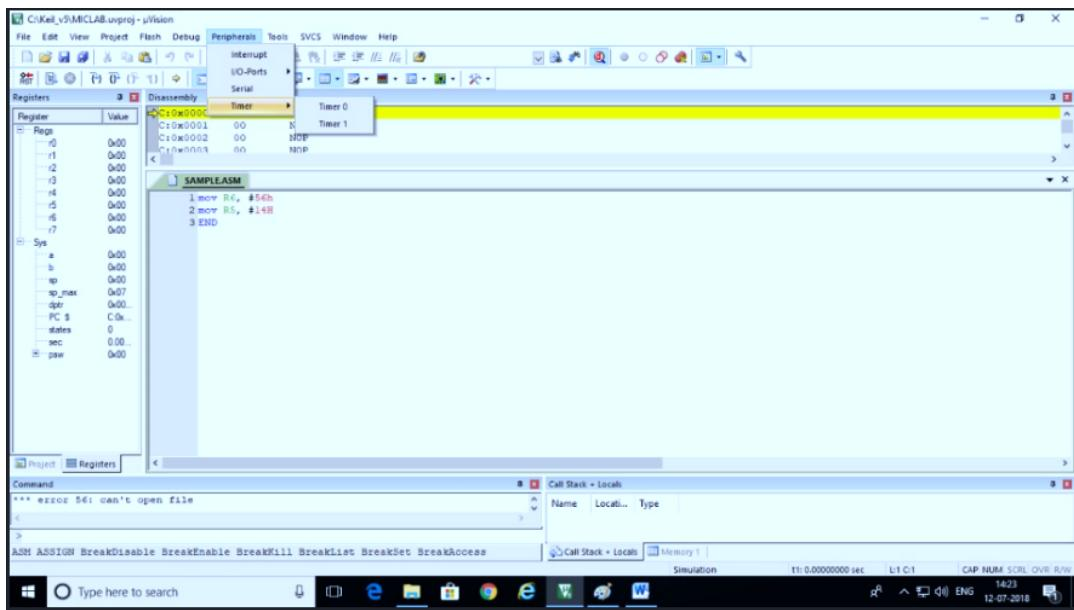

Figure 4.13: Output Window
18. Observe the logic levels of port pins, timers, interrupt etc, by clicking on Peripherals and select appropriate. (refer Figure 4.13)